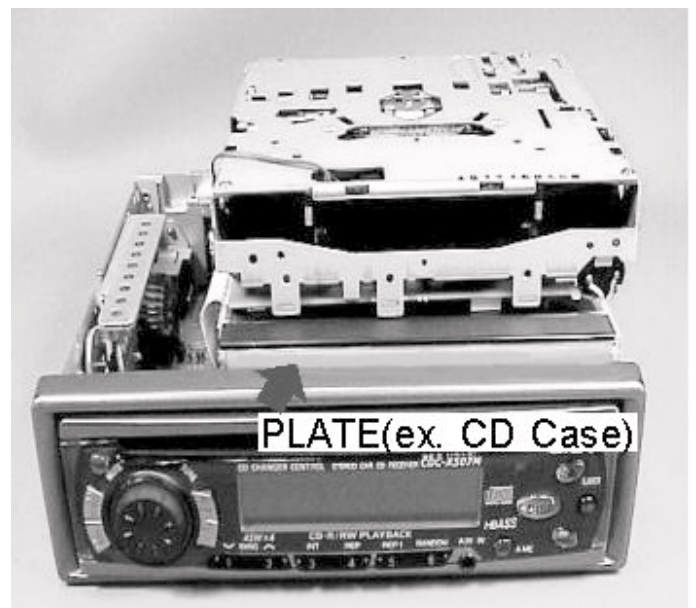

Fig. 2
- Put the DFP onto the CD case to fix it. (Fig. 2)